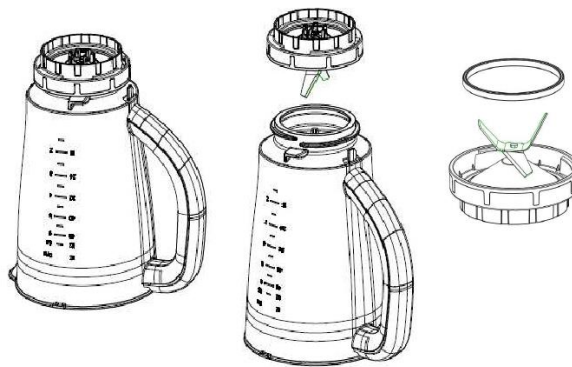

Fig. 6
2. Dismantle all detachable parts. Disassemble the Jar from the motor unit, To detach the blade assembly, and remove the jar base seal ring (see fig.6). In addition, detach the jar cover seal ring from the jar cover. Rinse the jar, blade, jar cover and measuring cup under running water.